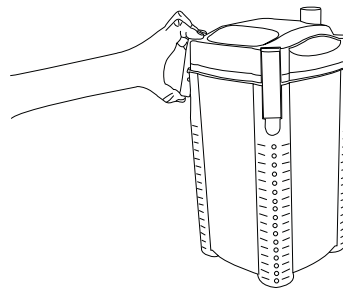

Fig 9
12. Latch and secure the clips. The filter unit is now ready to be installed. Fig 9